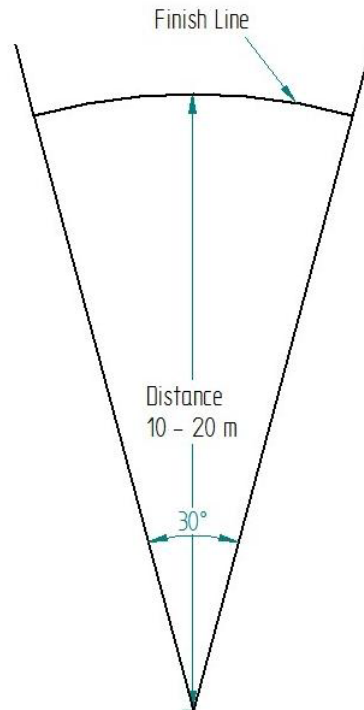

Figure 1: Sketch of the track
2. The model cars must not leave the marked area (Figure 1). A variation of ± 15 degrees to the starting point will be tolerated. If any model car hits the right or left bar, the run will be aborted and the distance to this point will be taken with a penalty of three meters. If the car travel more than 25 m, the attempt will be invalid.